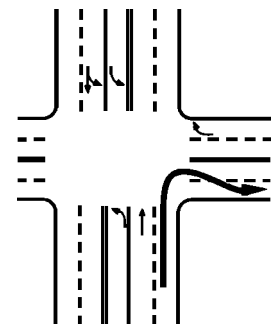

Figure 2-8
- If you are driving a truck or bus that cannot make a right turn without swinging into another lane, turn wide as you *complete* the turn as shown in Figure 2-8. Keep the rear of your vehicle close to the curb. This will stop other drivers from passing you on the right.